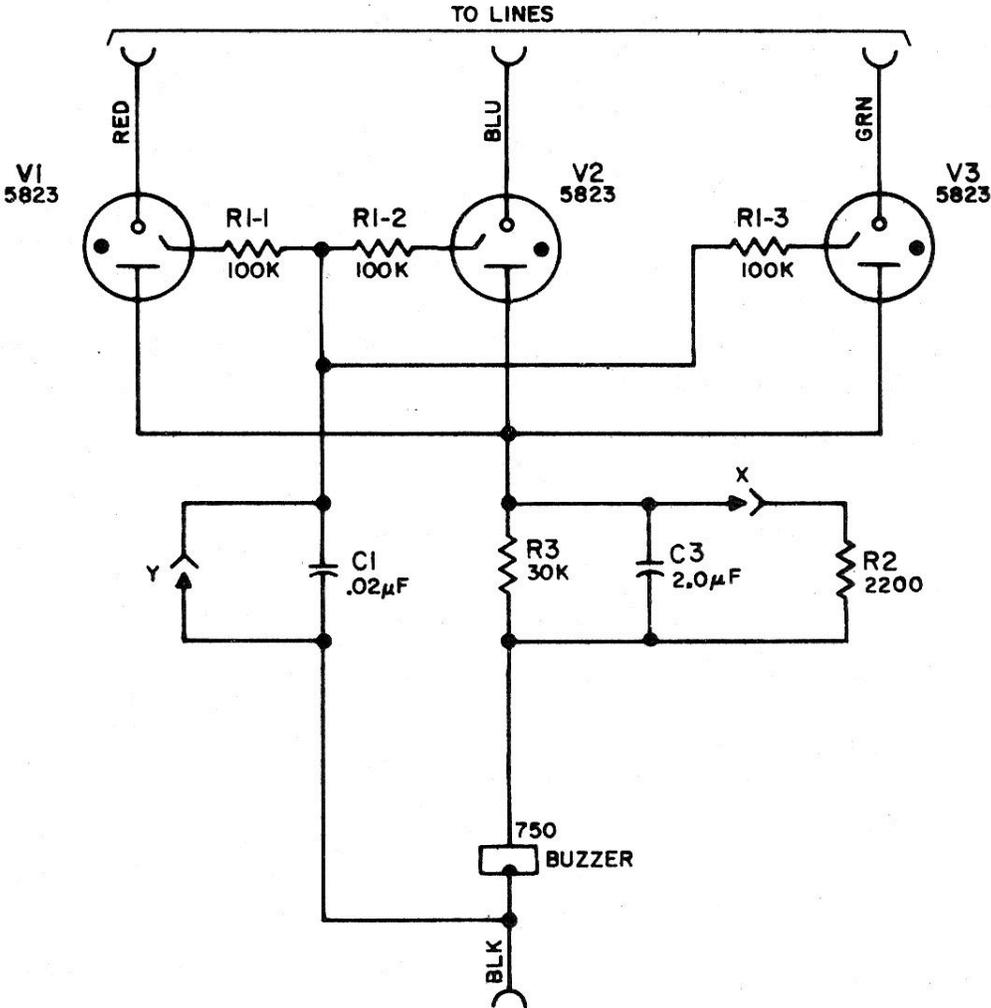

Figure 16. Circuit of Current Common Audible Signal Unit.
2.38 Current production units (Figure 16) use a high-impedance circuit similar to the original version. Typical direct current for high generator voltage (battery-connected, 125 V at 20 Hz) is less than 4 mA if the X strap is removed. A reasonably wide operating range is provided, with sensitivity at approximately 90 V. (As mentioned before, the X strap should be used only with ground-connected generator ringing and when that generator voltage is too low to operate the signal unit.) Thus, in nearly all telephone exchanges encountered today, at least three units may be connected in such a way as to monitor the same line. In extreme situations where false ring cutoff problems occur, the only recourse is to increase substantially the resistance of R3.